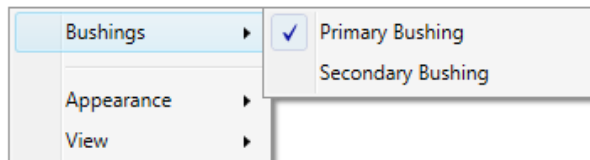

Figure 4-66: Bushings shortcut menu
- The Plot option offers a choice of a 2D chart or Histogram as shown in Figure 4-66.
- The Bushings option offers a choice of Primary or Secondary Bushings as shown in Figure 4-66.